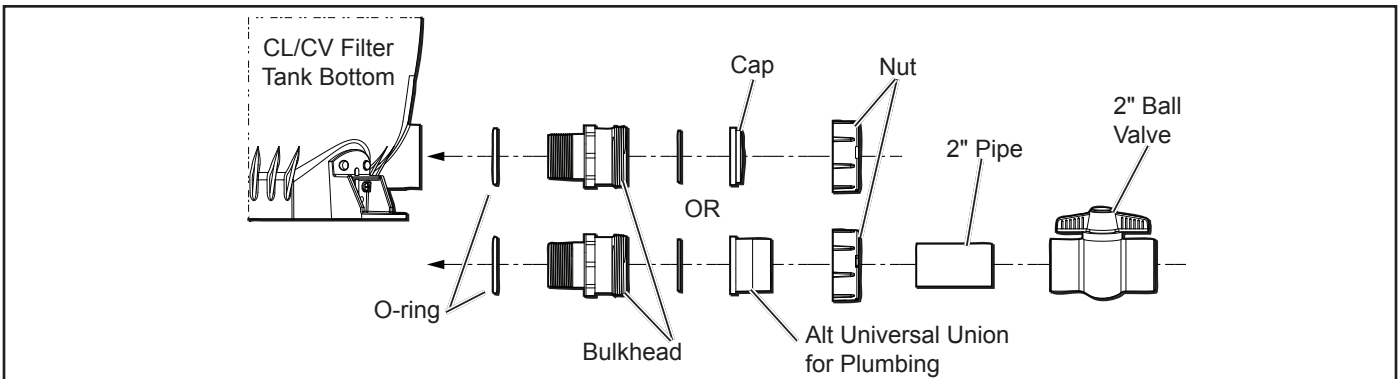

Figure 6. Jandy Pro CL and CV Series Cartridge Filter Drain Configurations
9. Connect the pipes using the unions supplied with the filter. **Do not use Teflon tape or pipe dope on any unions.** Assemble the unions dry and hand tighten. See Figure 6.
- If desired, the CV filter drain can be plumbed using a Jandy Pro universal union. The plumbing must contain a ball valve as shown in Figure 6.